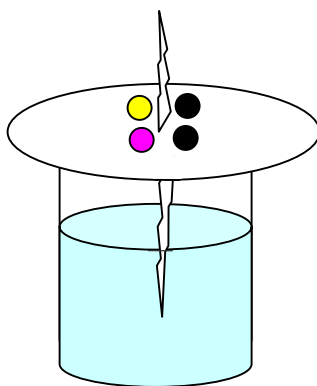

Figure 1: Chromatography Apparatus
1. Use a pencil or scissors to poke a **small** hole in the center of a piece of filter paper (see Figure 1).